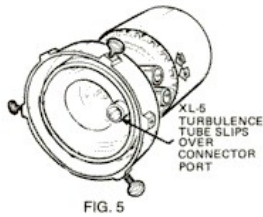

Fig. 5
3. Install the XL-5 Turbulence Tube by forcing flat cut end over the Turbulence Tube connector port on the bottom of the Main Casting. (Fig. 5)